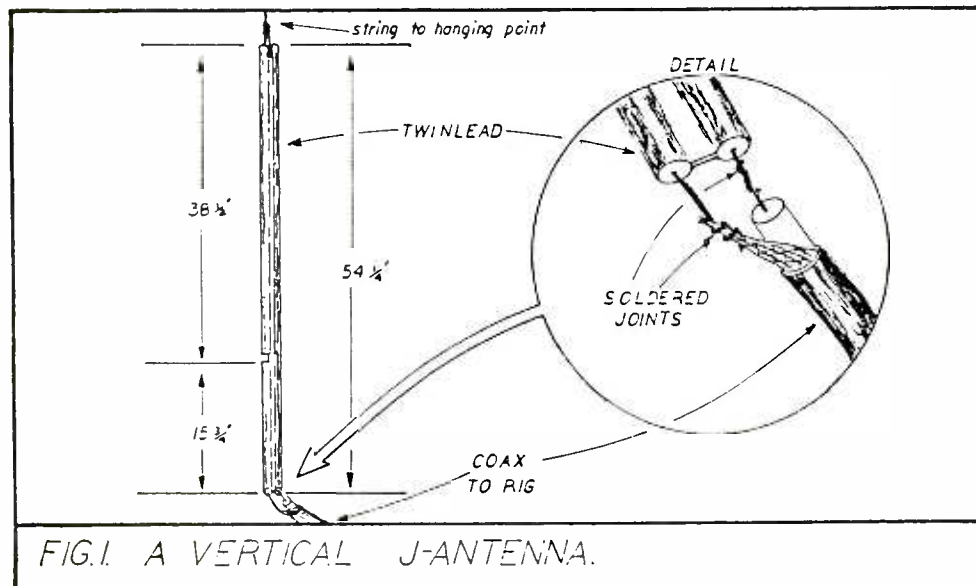

FIG. 1. A VERTICAL J-ANTENNA.
Remove the 1/2 inch chunk of cable which this creates and discard it. This leaves the twinlead with one wire 54-1/4 inches long, one conductor shortened to 15-3/4 inches and another piece beyond the 1/2 inch gap which is 38 inches as shown in Figure 1.
3. Trim away 1/4 to 3/8 inch of insulation from the end of both the 54-1/4 inch and the 15-3/4 inch lengths as shown in Figure 1.
4. Prepare a 10 to 15 foot length of 50-ohm coaxial cable by exposing about 1/4 to 3/8 of the center conductor, and arranging the braided outer conductor as shown in Figure 1. Solder the inner conductor to the end of the 54-1/4 inch wire, and the shield to the end of the 15-3/4 inch length as shown in Figure 1.